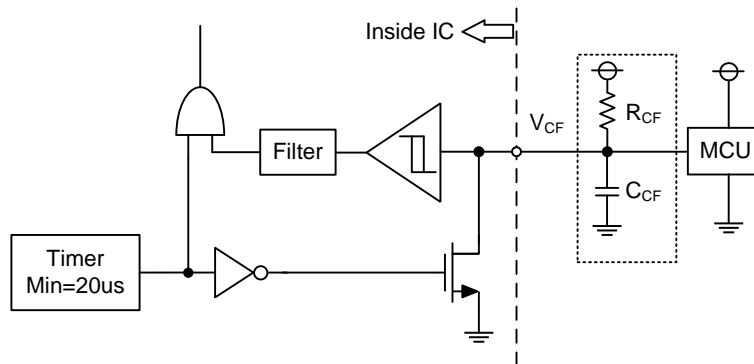

Figure 5. V_{CF} Output Circuit
- (1) If the control GND is connected with the power GND by common broad pattern, it may cause malfunction by power GND fluctuation. It is recommended to connect the control GND and power GND at a single point (N1), near the terminal of the shunt resistor.
- (2) There are two COM pins in the IPM but it is recommended to only use the (15) COM pin to minimize SC detection noise.
- (3) A zener diode D1 (24V/1W) is recommended between each pair of control supply pins to prevent surge destruction.
- (4) Prevention of surge destruction can further be improved by placing the bus capacitor as close to pin P and N1 as possible. Generally a 0.1-0.22μF snubber capacitor C3 between the P-N1 terminals is recommended.
- (5) Selection of the R1*C4 filter components for short-circuit protection is recommended to have tight tolerance, and is temperature-compensated type. The R1*C4 time constant should be set such that SC current is shut down within 2μs; (typically 1.5-2μs). R1 and C4 should be placed as close as possible to the C_{SC} pin. SC interrupting time may vary with layout patterns and components selection, therefore thorough evaluation in the system is necessary.
- (6) Tight tolerance and temperature-compensated components are also recommended when selecting the R2*C5 filter for V_{OT}. The R2*C5 time constant should be set such that V_{OT} is immune to noise. Recommended values of R2 and C5 are 2kΩ and 10nF.
- (7) To prevent malfunction, traces A, B, and C should be as short as possible.
- (8) It is recommended that all capacitors are mounted as close to the IPM as possible. (C1: electrolytic type with good temperature and frequency characteristics. C2: ceramic type with 0.1-2μF, good temperature, frequency and DC bias characteristics.)
- (9) Input drives are active-high. There is a minimum 3.5kΩ pull-down resistor in the input circuit of IC. To prevent malfunction, the layout to each input should be as short as possible. When using RC coupling circuit, make sure the input signal levels meet the required turn-on and turn-off threshold voltages.
- (10) V_{CF} output is open drain type. It should be pulled up to MCU or control power supply (max= 5±0.5V), limiting the current (I_{CF}) to no more than 1mA. I_{CF} is estimated roughly by the formula of control power supply voltage divided by the pull-up resistor R3. For example, if control supply is 5V, a 10kΩ (over 5kΩ) pull-up resistor R3 is recommended.
- (11) If only a pull-up resistor R3 of 10kΩ connected to V_{CF} pin, the fault output pulse width is fixed at minimum 20us. If a capacitor C6 is connected with a pull-up resistor R3, the fault output pulse width can be controlled according to the resistor value and capacitor value. For the design guide, please refer to the Figure 5.
- (12) Direct drive of the IPM from the MCU is possible without having to use opto-coupler or isolation transformer.
- (13) The IPM may malfunction and erroneous operations may occur if high frequency noise is superimposed to the supply line. To avoid such problems, line ripple voltage is recommended to have $dV/dt \leq \pm 1V/\mu s$, and $V_{ripple} \leq 2V_{p-p}$.
- (14) It is not recommended to use the IPM to drive the same load in parallel with another IPM or inverter types.